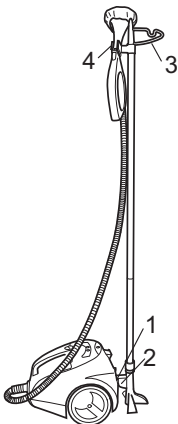

Fig. 17
5. Push the complete screw-in insert tube with parking hook (Fig. 17/2) into the parking mount (Fig. 17/1) of the Vaporflex.
6. Turn the rod in such a way that the clothes hook (Fig. 17/3) points towards the Vaporflex.
8. Now you can hang the handle into the nozzle holder (Fig. 17/4). You can also use the nozzle holder for simply putting aside the handle during work breaks.